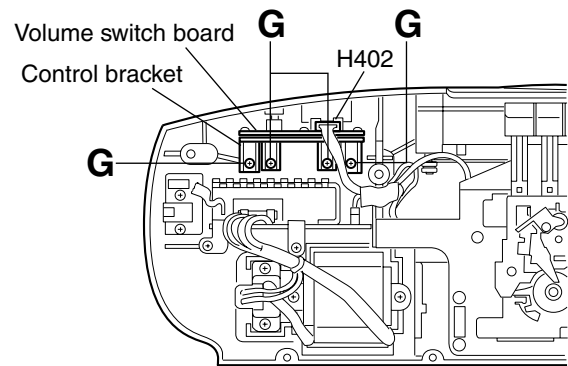

Fig.12
■ Removing the volume switch board (See Fig. 12 and 13.)
(See Figs. 12,14,16 and 20 to 22.)
1. From the back side of the rear cabinet assembly, remove the two screws **S** retaining the CD/Cassette mechanism assembly. (See Fig.12.)
2. Disconnect the wire from the connector H402 on the volume switch board. (See Fig.12.)